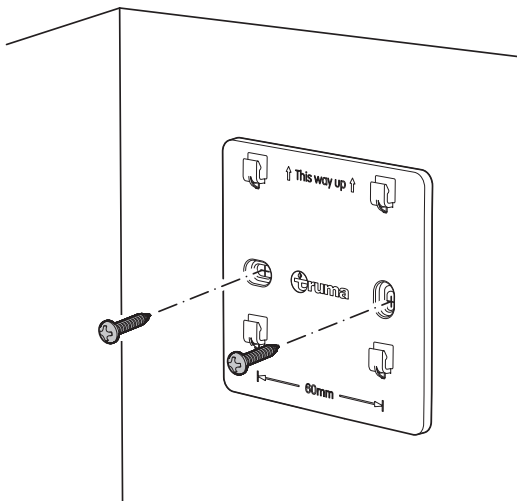

Fig. 17
- To attach the mounting plate, screw both button head cap screws into the wall using a Phillips screwdriver (Fig. 17).